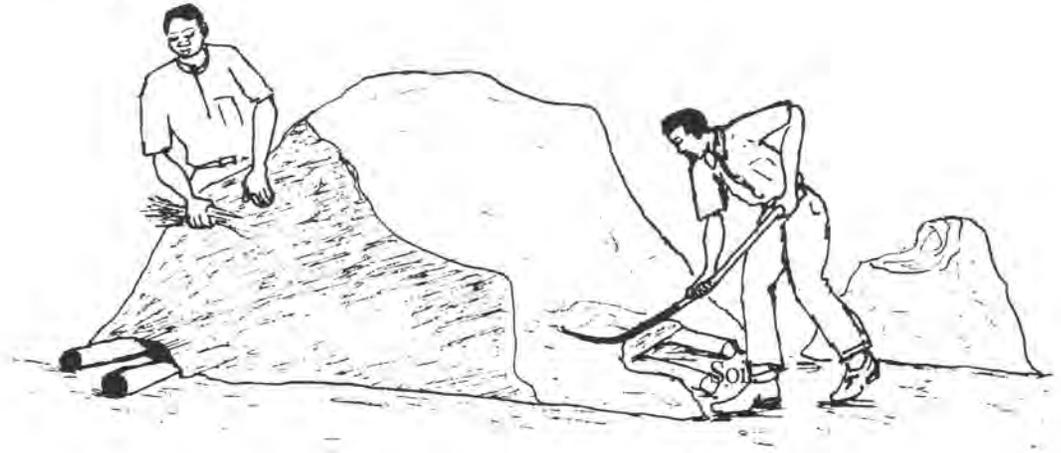

Figure 5.4: Covering the wood completely with grass or foliage and then soil
5. Cover the wood completely with grass or foliage first and then soil (Figure 5.4).